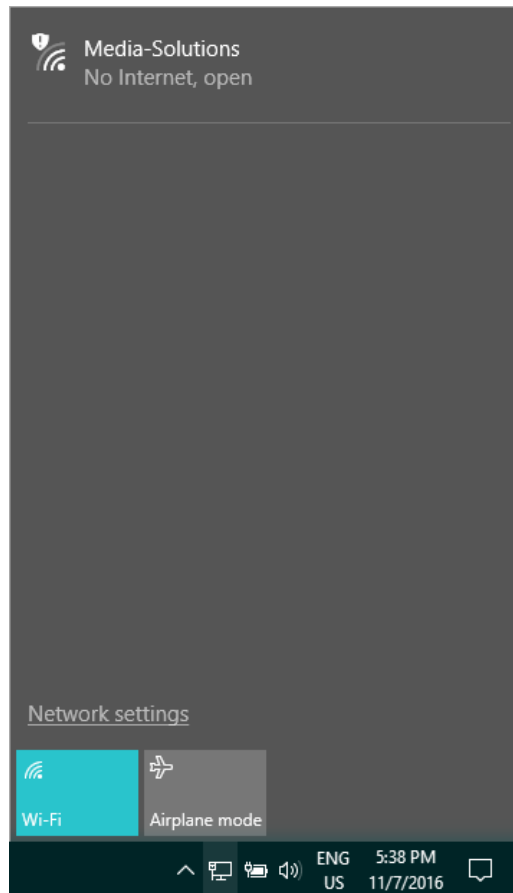

Figure 31: Scanning for Available Wi-Fi Networks
2. Using your Wi-Fi enabled device, scan for Wi-Fi networks. The "**Media-Solutions**" network should appear on the scanned list, as shown in Figure 31 below.